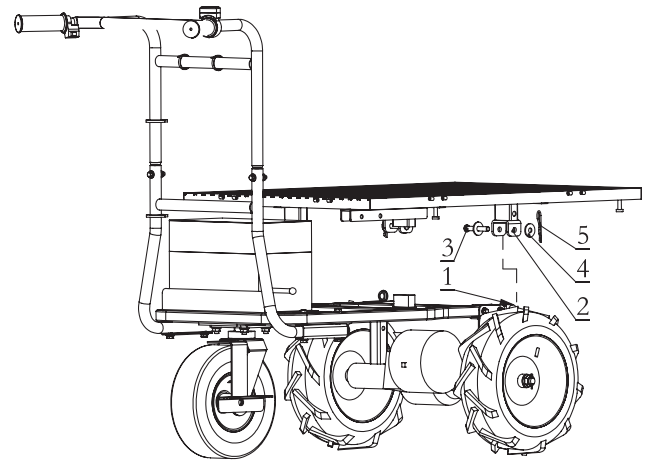

Figure 4
1. Take the bottom wire deck(2), face the flat wire upside and position the dumping handle groove side to main handle. Put the bottom wire deck(2) on to the base frame (1) , fasten by bolt (3) and washer (4), locked by the pin (5); (See Figure 4)